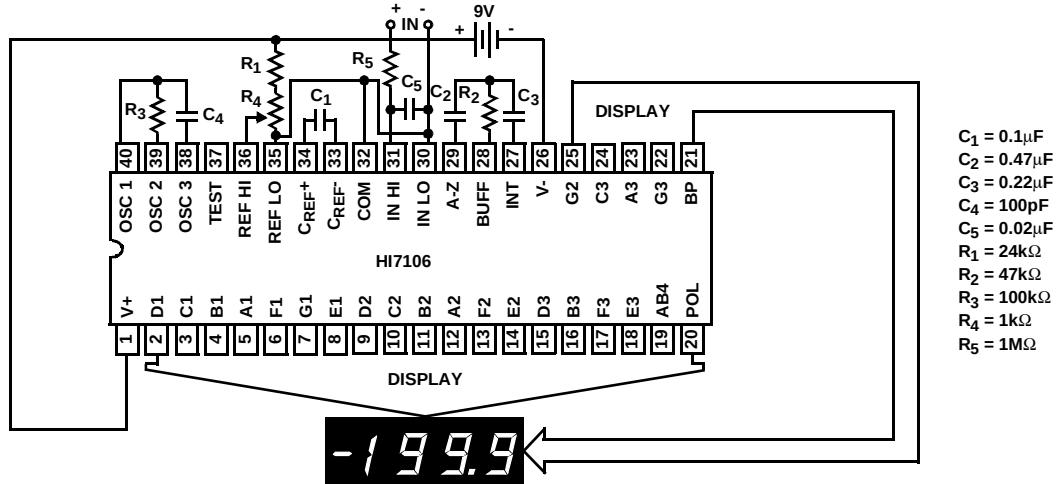

FIGURE 1. HI7106 TEST CIRCUIT AND TYPICAL APPLICATION WITH LCD DISPLAY COMPONENTS SELECTED FOR 200mV FULL SCALE
4. Unless otherwise noted, specifications apply to both the HI7106 and ICL7107 at $T_A = 25^{\circ}\text{C}$, $f_{\text{CLOCK}} = 48\text{kHz}$. HI7106 is tested in the circuit of Figure 1.